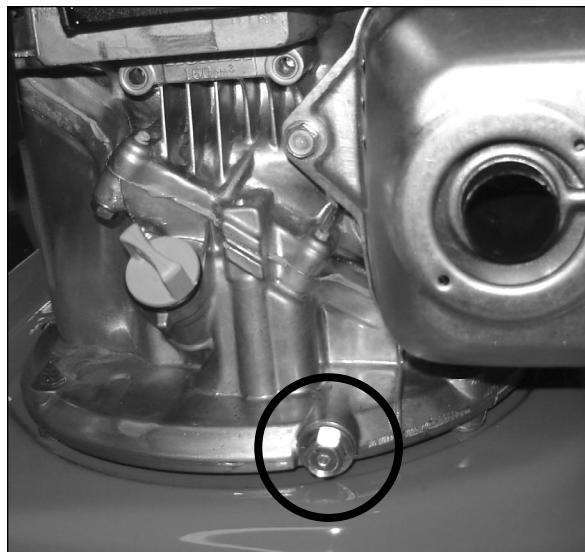

Figure 13 - Oil Drain Location
2. Locate and remove the engine oil drain plug (See Figure 13).